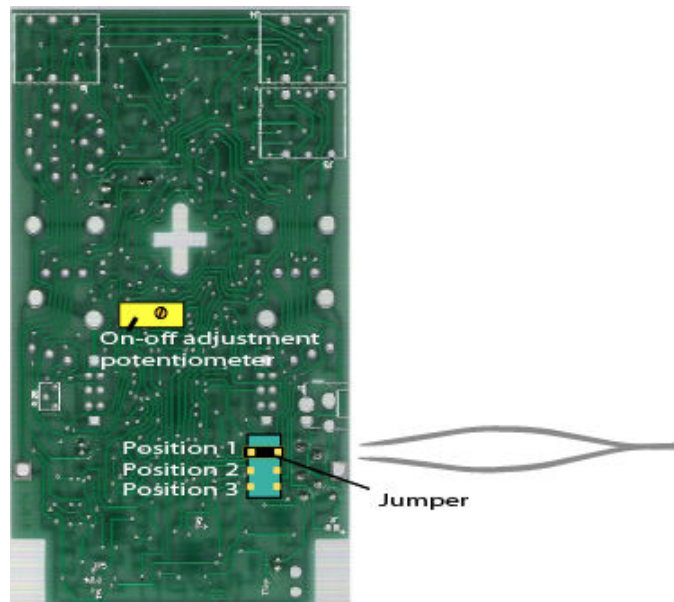

FIG 3
1. Remove the larger base plate. Locate the jumper as shown in fig 3 below. Take some tweezers or needle nose pliers (or your fingers if nimble enough) and remove the jumper (small connector) from its present position and move it to the next set of pins. Move it to the front of the unit if the unit needs to turn on earlier and move it to the back (heel) of the unit if it is not turning off.